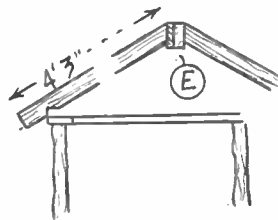

Fig. 3
Before proceeding further with the rustic wood, it will be wise now to make up and fit the roof in position. For the centre piece of the roof (E in Fig. 3) cut a piece of wood 4 ins. square and 5 ins. long to hexagon shape. This can be easiest done by describing a 4 in. circle on to stiff paper, and dividing the circumference into six parts by stepping off the radius round the circle, and joining the points by straight lines. Pin this to the top of (E) and transfer the hexagon shape to the wood. Saw accurately to the shape, making the sides of truly hexagon figure.
Cut six rafters of 1 in. by 2 in. timber, and saw one end of each to an angle of 60 degrees. Nail two of the rafters to part (E), to opposite sides, and lay the whole on the top frame of the summer house, as in detail, Fig. 3. See the ends of the rafters extend beyond the frame by an equal amount, and where they contact the frame, saw out a right-angled notch 1 in. each way. It may be